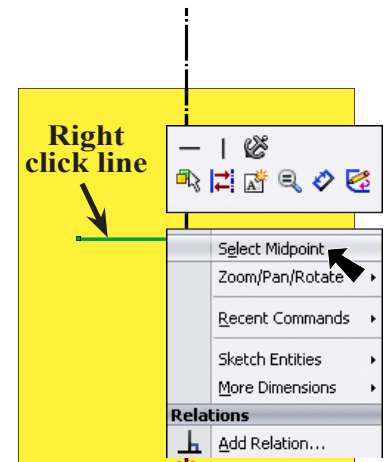

Fig. 27
Step 10. **Right click horizontal line and click Select Midpoint** from Content menu, Fig. 27.